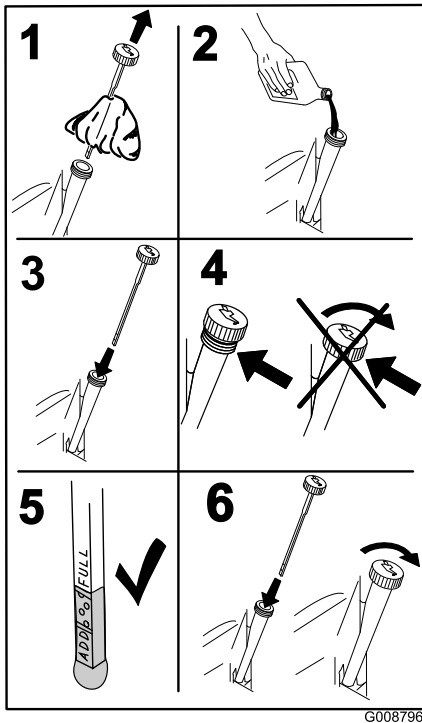

Figure 35
- Slowly pour approximately 80% of the specified oil into the filler tube and slowly add the additional oil to bring it to the **Full** mark (Figure 35).